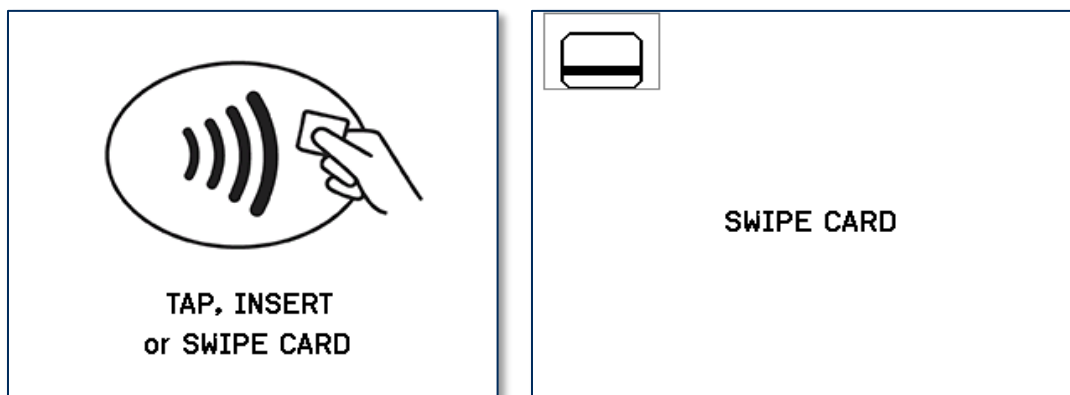

Figure 7-15 - Example Card Swipe Screens
- 1) Wait for the device to display an action prompt (see **Figure 7-15** for examples).